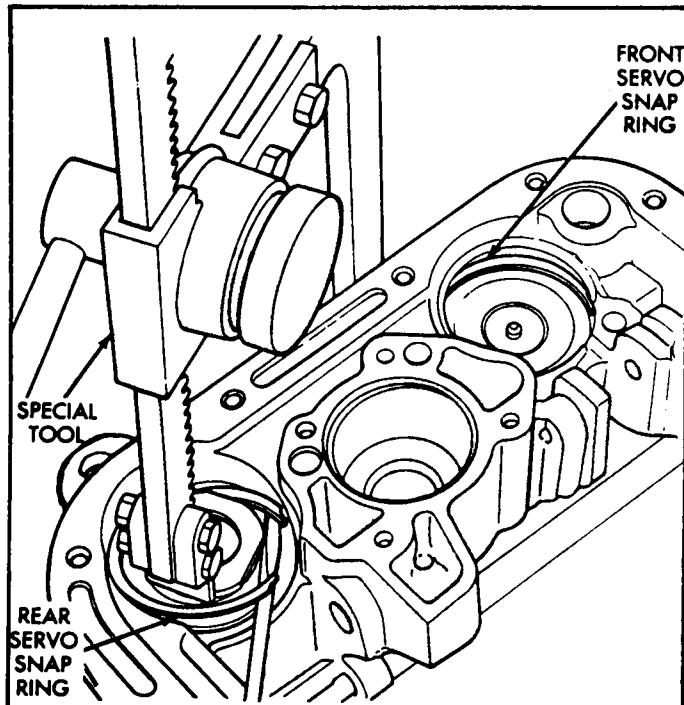

Figure 31
50. Compress the rear servo spring retainer about  $1/16"$  with spring compressor, as shown in Figure 31, and remove the snap ring.